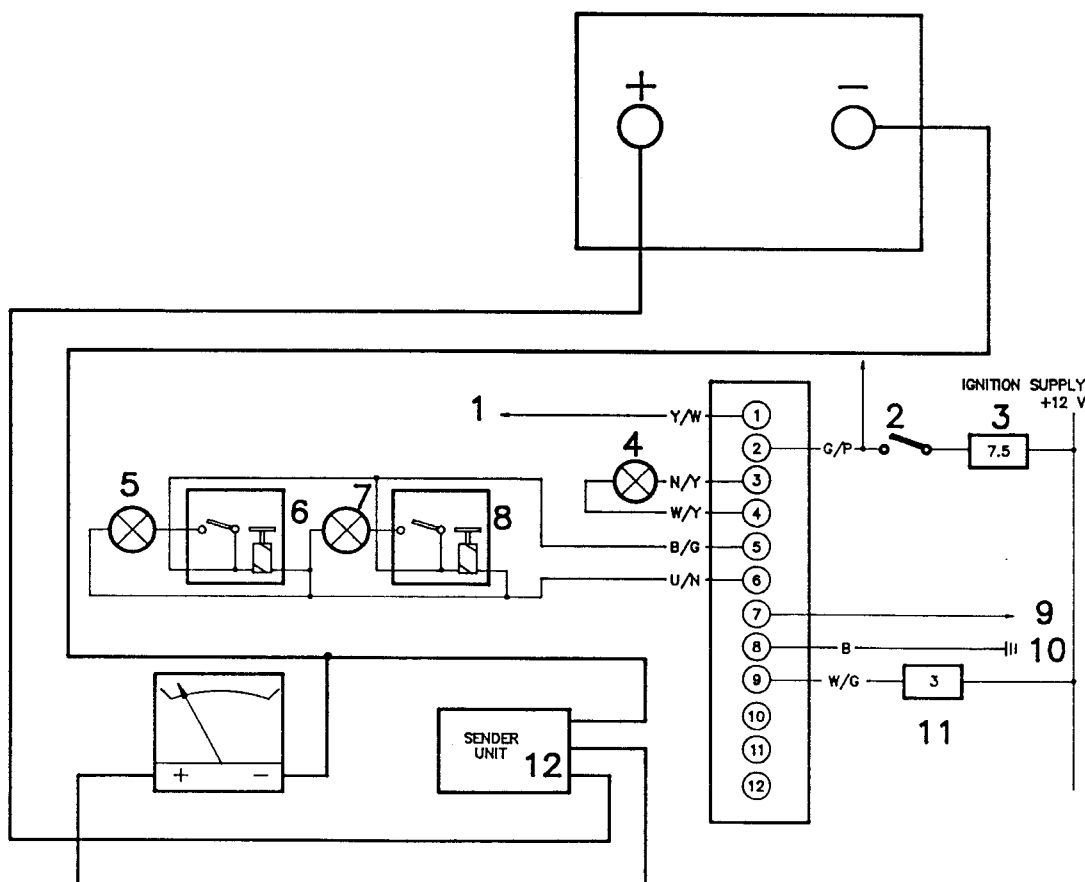

Figure 5
3. Connect a test circuit, including a pulse meter and slave battery, to the sender unit leads at the control box, as shown in figure 5.